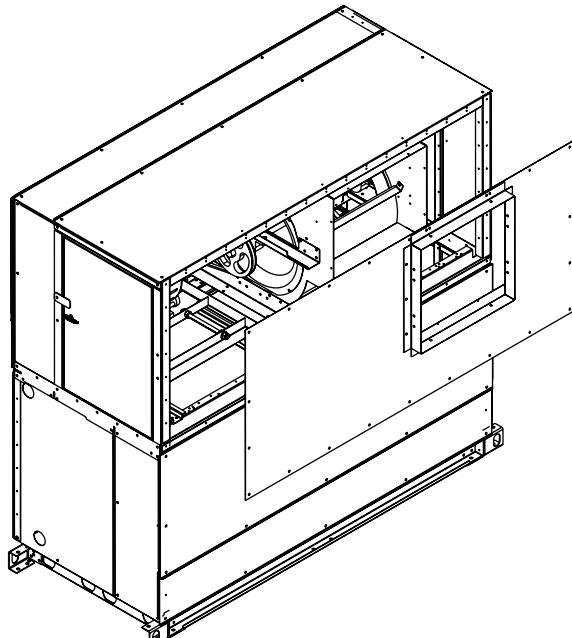

Fig. 76 — Remove All Panels
2. Remove all of the panels from the fan section (Fig. 76).